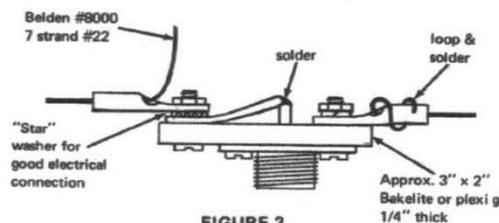

FIGURE 2
- Make up an assembly similar to Fig. 2 for the coax feed. Note the use of special solder lugs which have a straight-through hole. The use of the female coax connector instead of hard wiring is recommended for the following reasons: